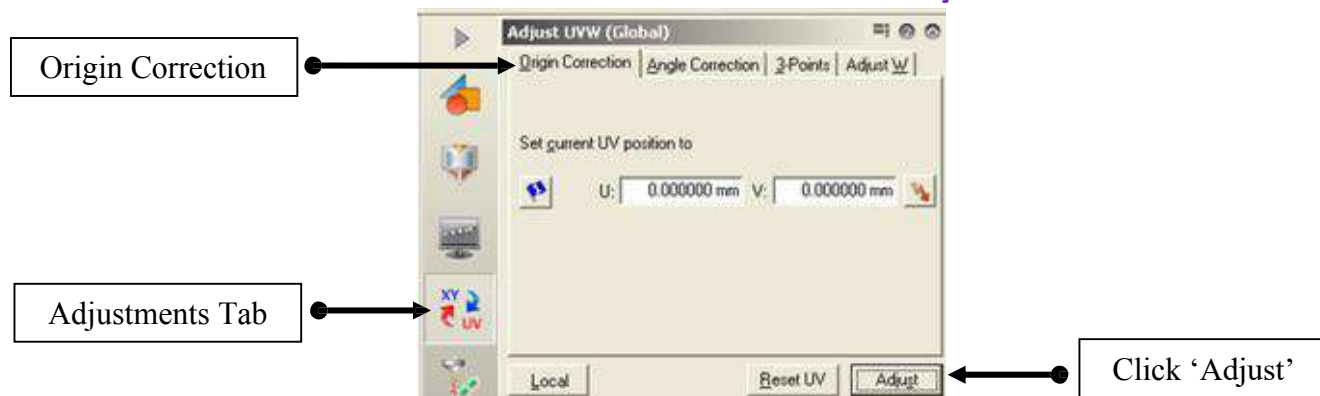

Figure 17 Origin correction in Adjustments tab
15. In the Raith software, click on the **Adjustments** tab, ensure **Global** co-ordinates are selected, select **Origin Correction**, and click **Adjust** as shown in Fig. 17. Current X,Y position is now U,V = 0,0.